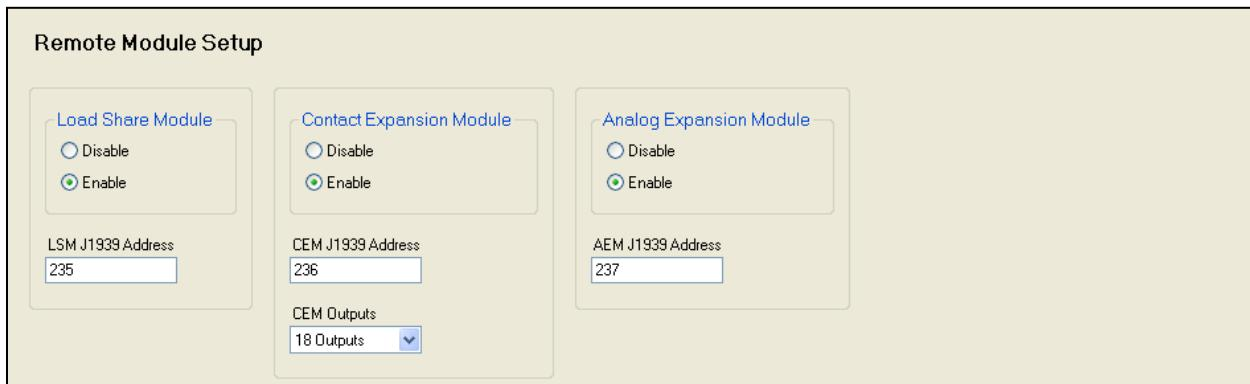

Figure 6-58. Settings Explorer, System Parameters, Remote Module Setup Screen
2. If using a remote module to control the governor or voltage regulator i.e. LSM-2020 or CEM-2020, click on *System Parameters* then *Remote Module Setup*. Enable the applicable module. This step is not necessary if you are using the DGC-2020's available contact outputs for AVR and governor control. See Figure 6-58.